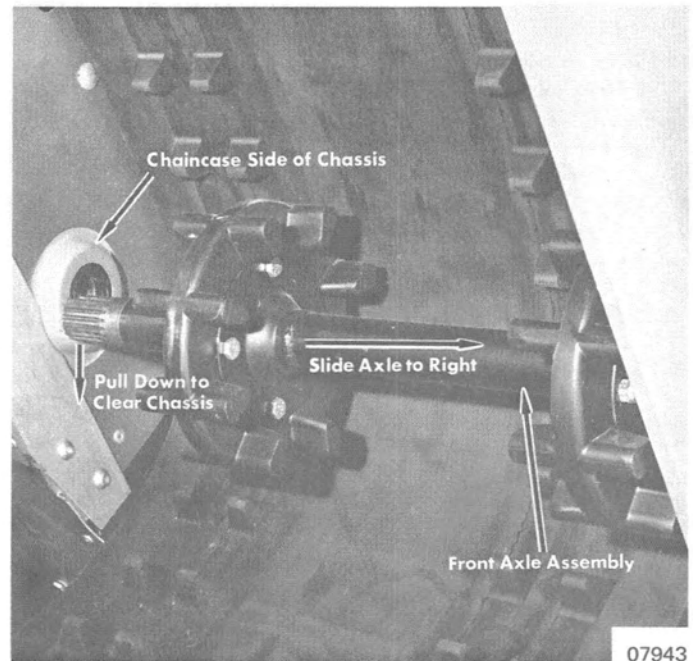

Figure 2. Removal of Front Axle
8. Slide front axle to right and pull left end down to clear chaincase. (Figure 2)